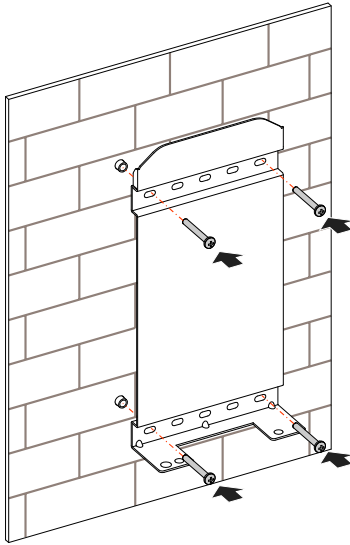

Figure3-10 Fasten the installation holder
Step 4 Align the holes of installation holder with the expansion plugs and install the self-tapping screws and flat gasket into the expansion plugs (as shown in Figure3-10) and fasten them by screwdriver.